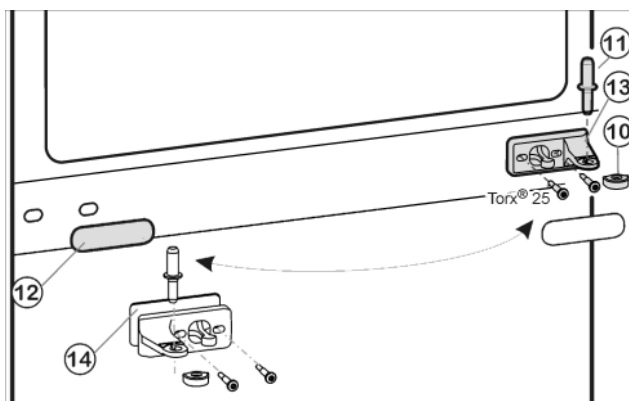
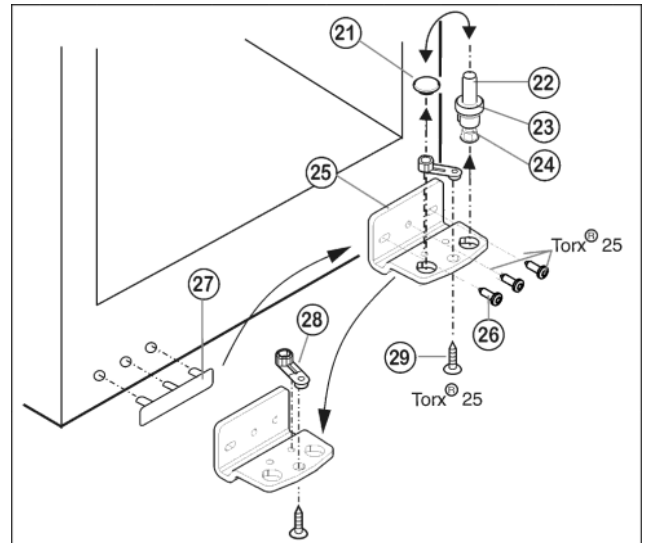

Fig. 5
Fig. 6
- ▶ Draw the middle bearing pin Fig. 5 (11) out of the turn hinge and lower door.
- ▶ Remove the plastic cap Fig. 5 (10).
- ▶ Unscrew the middle turn hinge (2x Torx® 25). Fig. 5 (13)
- ▶ Carefully detach the cover panel Fig. 5 (12).
- ▶ Turn the middle turn hinge Fig. 5 (13) with the washer Fig. 5 (14) through 180° and screw it firmly into place on the new hinge side (with 4 Nm).
- ▶ Turn the cover panel Fig. 5 (12) through 180° and snap it into place again on the new handle side.
- ▶ Lift out the bearing pin Fig. 6 (22) together with washer Fig. 6 (23) and foot Fig. 6 (24).
- ▶ Lift off the stopper Fig. 6 (21).
- ▶ Unscrew Fig. 6 (26) the turn hinge Fig. 6 (25).
- ▶ Unscrew Fig. 6 (29) the bearing element Fig. 6 (28), transfer it to the opposite location hole of the turn hinge and screw it firmly into place.
- ▶ Carefully lift off the cover on the handle side Fig. 6 (27) and transfer it to the opposite side.
- ▶ Screw the turn hinge Fig. 6 (25) firmly into place on the new hinge side, possibly using a cordless screwdriver (with 4 Nm).
- ▶ Re-insert the stopper Fig. 6 (21) into the other hole.
- ▶ Re-insert the bearing pin Fig. 6 (22) together with washer and foot. In so doing, pay attention that the locating lug points backwards
- ▶ Place the lower door from above onto the lower bearing pin Fig. 6 (22).
- ▶ Place the plastic cap Fig. 5 (10) back onto the middle turn hinge Fig. 5 (13).
- ▶ Place the middle bearing pin Fig. 5 (11) in the lower door, on the new hinge side, through the middle turn hinge Fig. 5 (13).
- ▶ Place the upper door on the middle bearing pin Fig. 5 (11).
- ▶ If necessary, align the doors to the appliance housing by way of the two oblong holes in the bottom turn hinge Fig. 6 (25) and middle turn hinge Fig. 5 (13). To do so, unscrew the middle screw in the bottom turn hinge Fig. 6 (25).